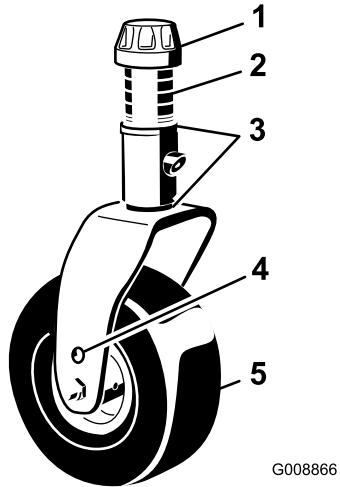

Figure 128
1. Remove the tensioning cap from the caster-spindle shaft and slide the spindle out of the caster arm (Figure 128).
Remove the tensioning cap and caster fork (Figure 128).